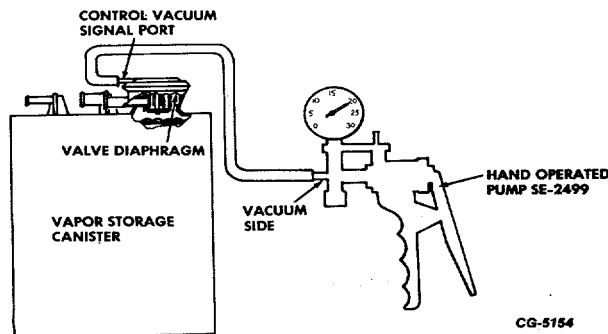
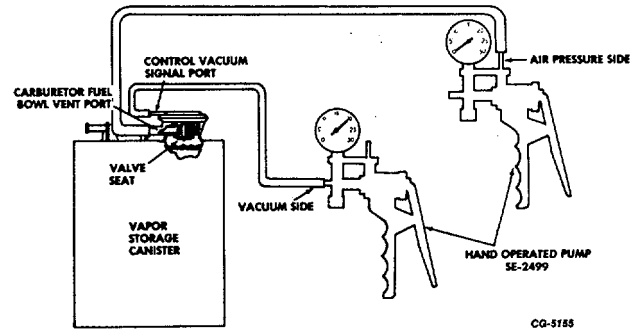

Fig. 15 Canister Fuel Bowl Vent Control Valve Diaphragm Test
Fig. 16 Canister Fuel Bowl Vent Control Valve Seat Test
1. Test canister fuel bowl vent control valve diaphragm by applying vacuum to the control valve port (smaller top port valve assembly) with hand operated vacuum pump (SE-2499). Observe vacuum pump gauge (Fig. 15). If vacuum drops rapidly the control valve diaphragm is leaking and the canister must be replaced.
2. The valve seat portion of the fuel bowl vent control valve can be tested by applying vacuum to the control valve (same as diaphragm test Fig. 15) and at the same time (with another hand operated pump SE-2499 using air pressure side of pump) apply air pressure to the valve (Fig. 16) until pressure buildup is felt. If pressure buildup is not felt the valve seat is leaking and the canister must be replaced.